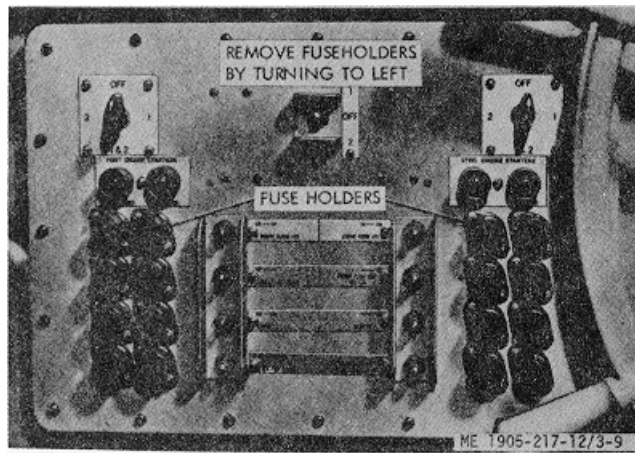

Figure 3-15. Stuffing box installation, hull numbers 8540 thru 8560 and 8580 thru 8618.
*d.* Refer to figure 3-15 for stuffing box installation procedures on hull numbers 8540 thru 8560 and 8580 thru 8619. Adjustment procedures are as described above.